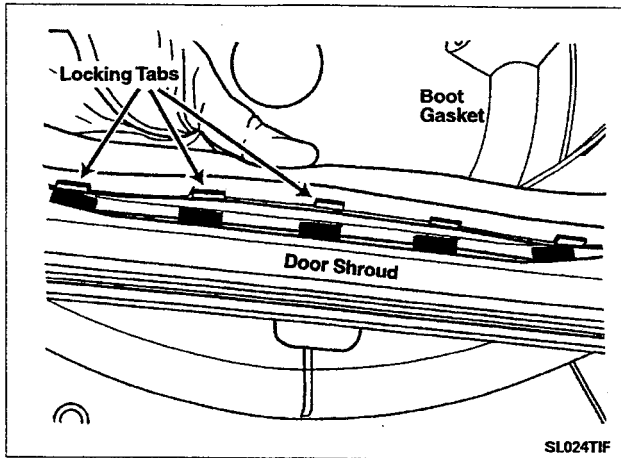

Figure 2-19
6. Unsnap the boot gasket from around the inside perimeter of the door opening by pulling outward on the sealing lip of the gasket (*Figure 2-19*).